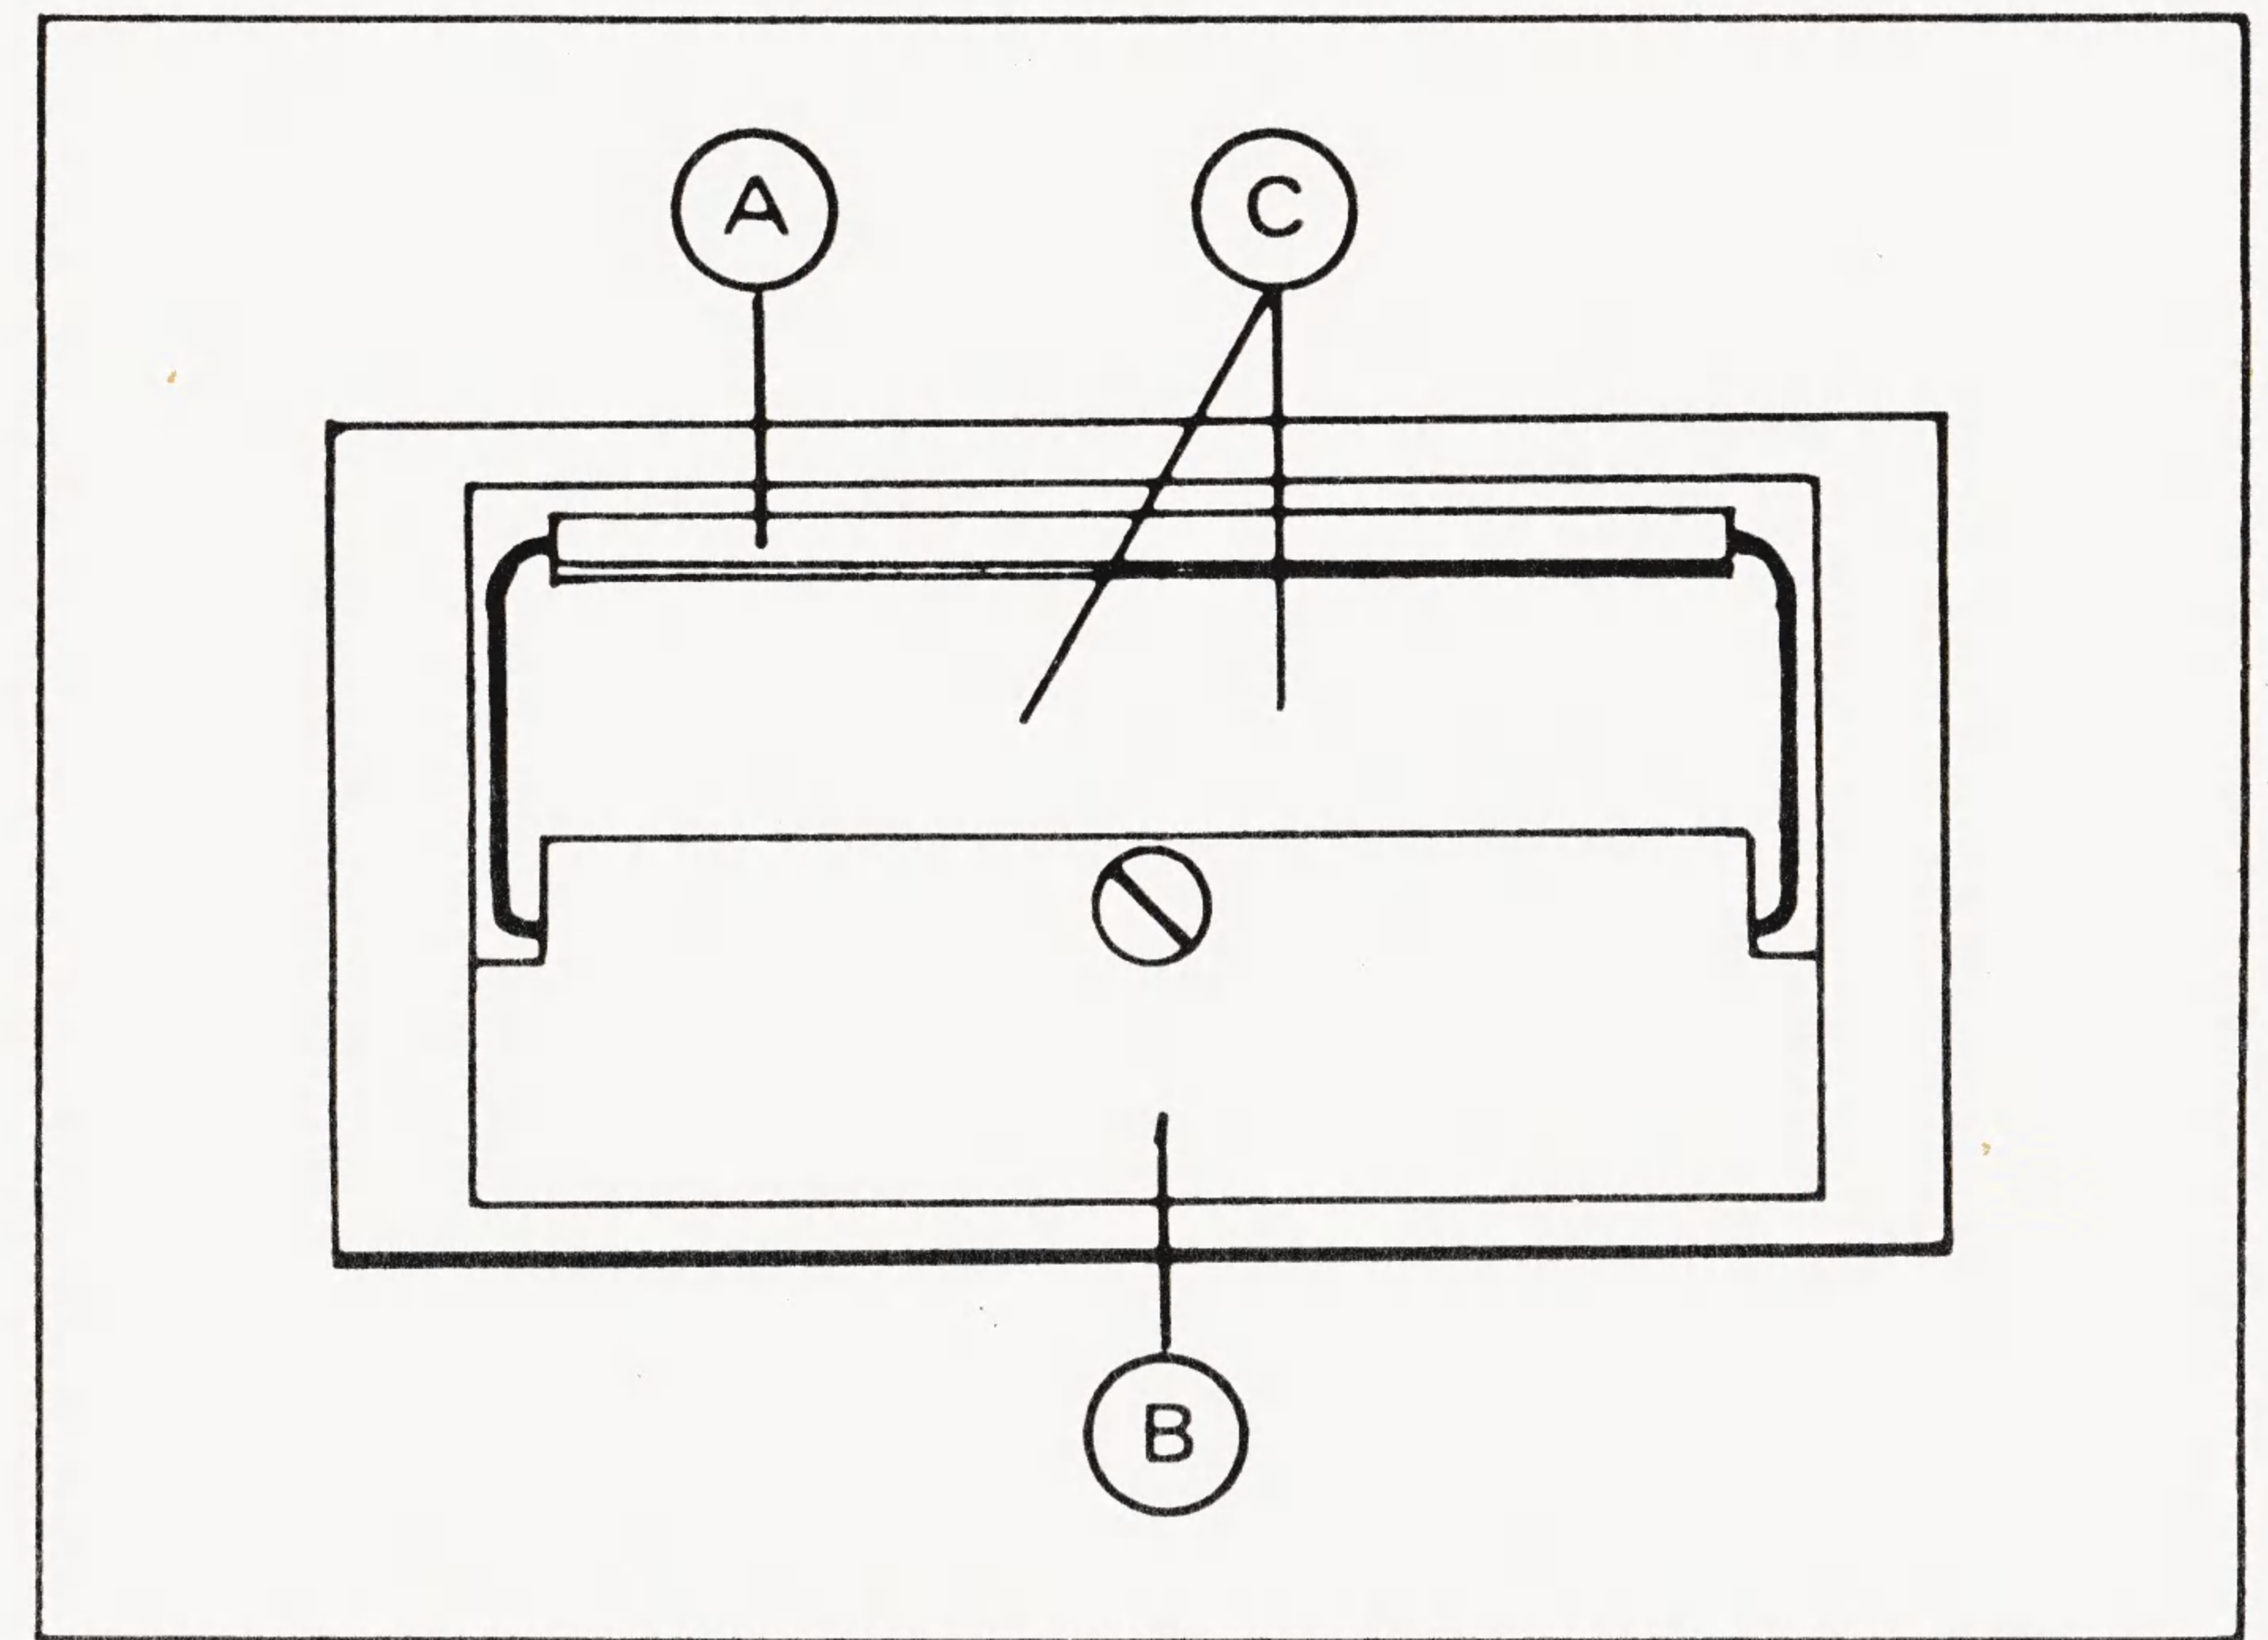

Figure 2.2 - Rear Panel
2.5 Rear Panel. The rear panel of the Danameter is shown in figure 2.2. Important features of the rear panel are listed in the following paragraphs.